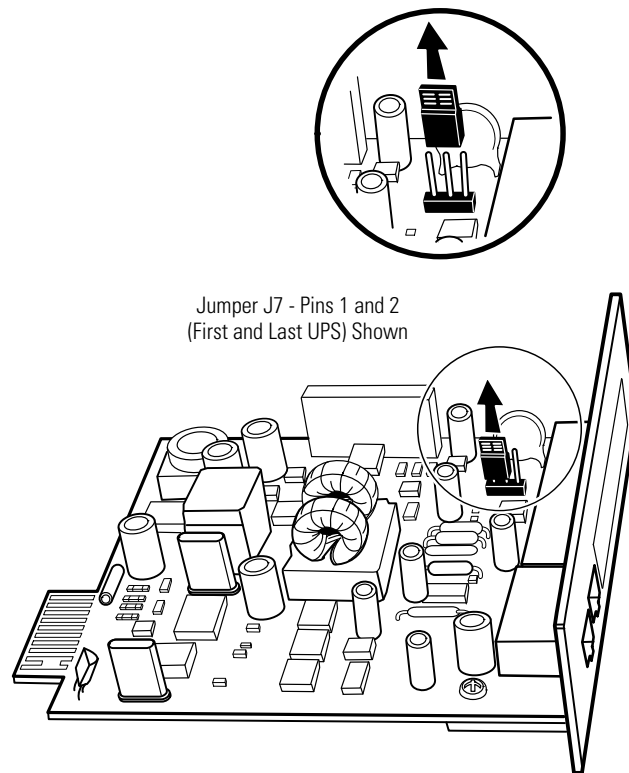

Figure 68. Removing the Jumper J7 (Side View)
5. If there is a Jumper J7 on the Powerware Hot Sync CAN Bridge Card, remove and discard (see Figure 68 on page 84).
- d. Remove and discard the Jumper J7 (see Figure 68).